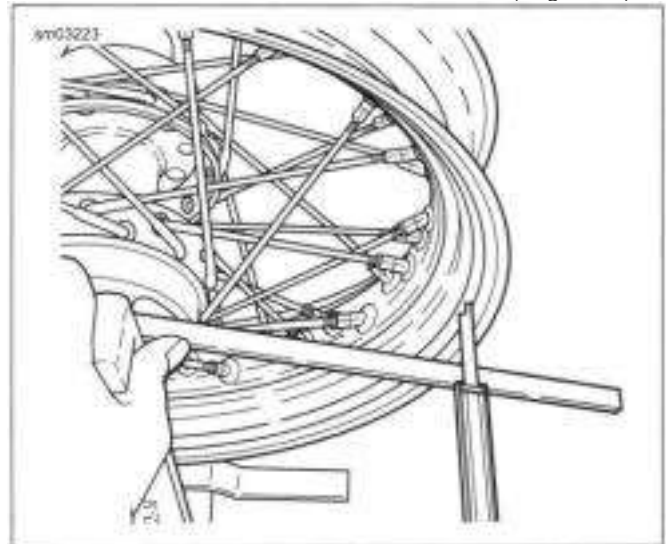

Figure 3-16. Checking Wheel Hub Offset Dimension (Typical)
2. See Figure 3-16. Mount wheel in WHEEL TRUING STAND (PART NUMBER: HD-99500-80) so hub turns freely on its bearings.